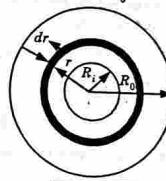

Fig. 3.14.1.
- Consider a hollow shaft which is subjected to a torque T as shown in Fig. 3.14.1.
- Take an elementary circular ring of thickness ' dr ' at a distance ' r ' from the centre as shown in Fig. 3.14.1.